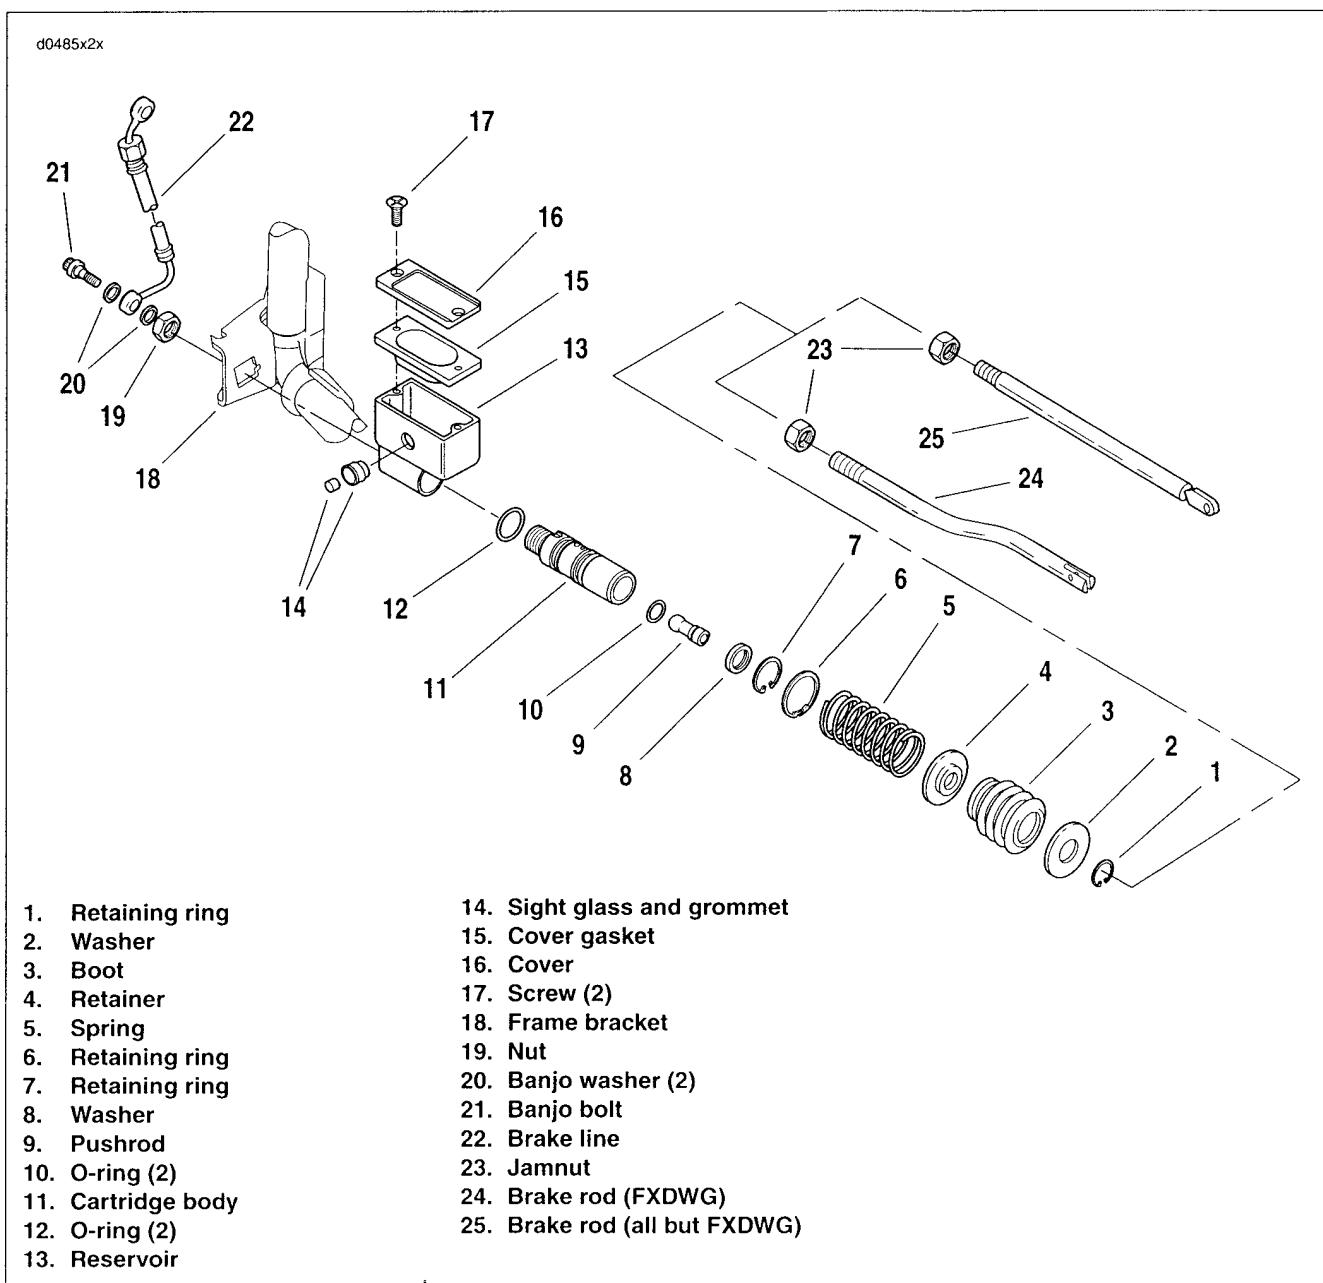

Figure 2-69. Rear Brake Master Cylinder
- See Figure 2-69. Remove banjo bolt (21) and banjo washers (20). Discard washers.
- Remove master cylinder mounting nut (19).
- Loosen jamnut (23) on threaded brake rod (24/25).
- Unscrew push rod (9) from brake rod.
2. See Figure 2-69. Thread banjo bolt (21) into the cartridge body (11).
3. Remove boot (3) from groove in master cylinder/reservoir (13). Set master cylinder/reservoir upright with banjo bolt resting on bench and push master cylinder/reservoir down and off the cartridge body.
5. Press down on large washer (2) to compress spring (5), keep spring compressed and remove retaining ring (1) from groove in push rod (9).
6. Carefully release spring and remove washer, boot, spring retainer (4) (inside boot) and spring.
7. Remove and discard retaining ring (7) from bore of cartridge body and remove push rod and washer (8).
2. See Figure 2-69. Inspect reservoir bore (13) for scratches. Replace if scratches are present.
3. Check boot (3) for tears and replace if any exist.
4. Inspect threads on cartridge body (11), push rod (9) and banjo bolt (21). Replace any part with damaged threads. Inspect spring for cracks or broken coils – replace if any exist.
5. Carefully remove large O-rings (12) from cartridge body. Do not scratch O-ring grooves. Clean grooves with soft cotton cloth moistened with alcohol. Inspect grooves for scratches and dirt. Remove dirt or replace cartridge body if grooves are scratched.
1. See Figure 2-69. Lubricate O-rings (12) with D.O.T. 5 brake fluid and install in O-ring grooves on cartridge body (11).
2. Lubricate bore of master cylinder/reservoir (13) with D.O.T. 5 brake fluid.
4. Thread banjo bolt (21) into cartridge body and stand master cylinder upright with banjo bolt resting on bench.
5. Place washer (8) on push rod (9).
6. Place a new retaining ring (7) on push rod. Insert ball-end of push rod into piston. Push piston downward with push rod until washer is properly seated in the cartridge bore.
9. Install retaining ring (6) in groove on cartridge body.
10. Install on push rod, spring (5), spring retaining washer (4) (large cupped side toward spring), boot (3) with drain hole down, and washer (2).
11. Press down on washer and install retaining ring (1) in push rod groove.
1. See Figure 2-69. Guide threaded end of master cylinder/reservoir (13) through hole in bracket (18). Make sure the square body of the master cylinder/reservoir is engaged in the square hole of the mounting bracket.
2. Install nut (19) and tighten to 40-50 ft-lbs (54.2-67.8 Nm).
3. Thread push rod (9) fully onto brake rod (24/25). Do not tighten jam nut (23).